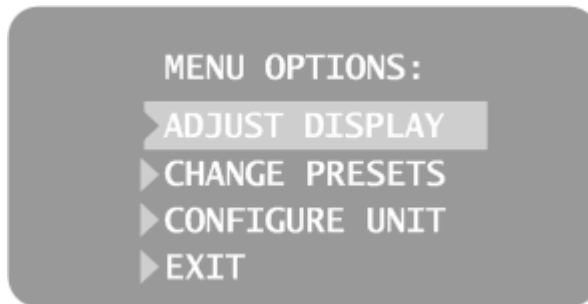
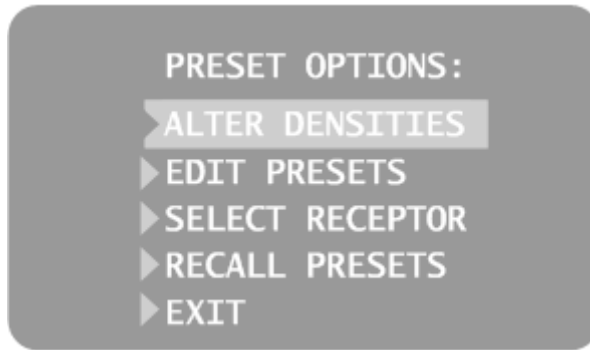
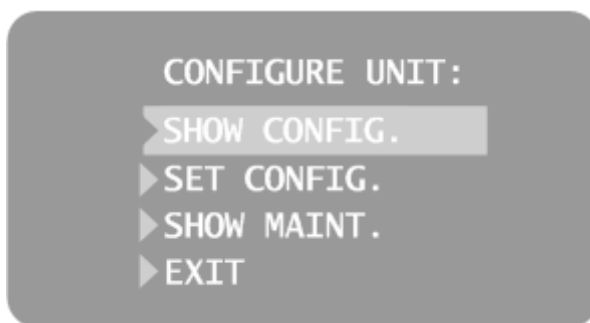
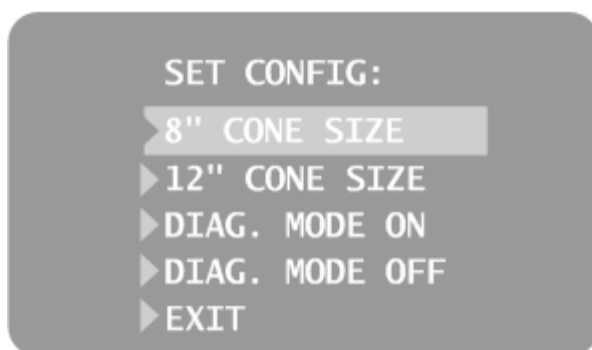

Figure 4
Figure 6
Figure 7
Figure 8
1. To enter system configuration mode, depress the Tooth Selection and Patient Size Selection buttons on the Operator Panel simultaneously for 5 seconds. The display shows the Main System Configuration menu, as shown in Figure 4, and the Ready Indicator blinks.
1. From the system configuration main menu, shown in Figure 4, select ADJUST DISPLAY. You will see the Display Options menu shown in Figure 5.
2. Selecting EXIT returns the display to the Main System Configuration menu shown in Figure 4.
1. From the Main System Configuration menu, shown in Figure 4, select CHANGE PRESETS. You will see the Preset Options menu shown in Figure 6.
4. Select SELECT RECEPTOR from the Preset Options menu (Figure 6).
1. From the Main System Configuration menu, shown in Figure 4, select CONFIGURE UNIT. You will see the Configuration menu shown in Figure 7.
Selecting SET CONFIG. from the Configuration menu, shown in Figure 7, displays the Set Configuration menu, Figure 8, with options to change the cone size. The Preva Dental X-ray System is factory set for use with the standard supplied 8-inch [20 cm] Cone. The 12-inch [30 cm] Cone [30-A2200] is available. Using the longer Cone requires longer exposure times, which the Preva automatically selects when you change the Cone size in the Set Configuration menu.
2. Select SET CONFIG. You will see the Set Configuration menu, shown in Figure 8.